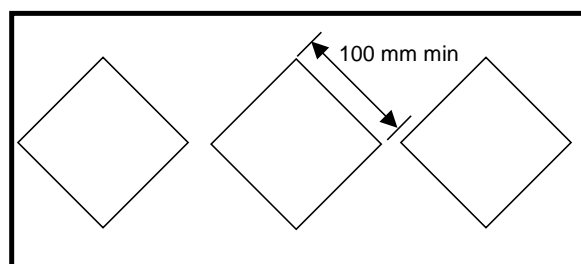

Figure 4 General form of placard for packaged Appendix 2-A hazardous chemicals
- a. be in the form shown in figure 4; and